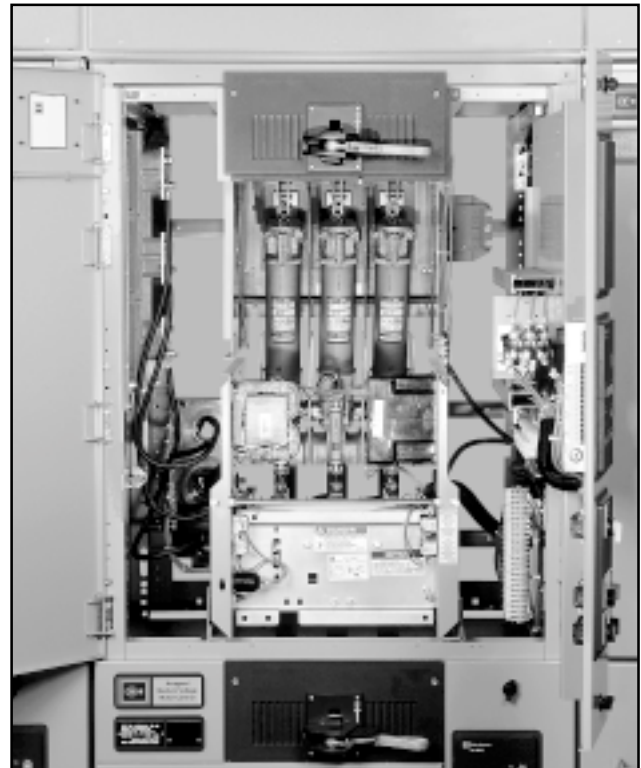
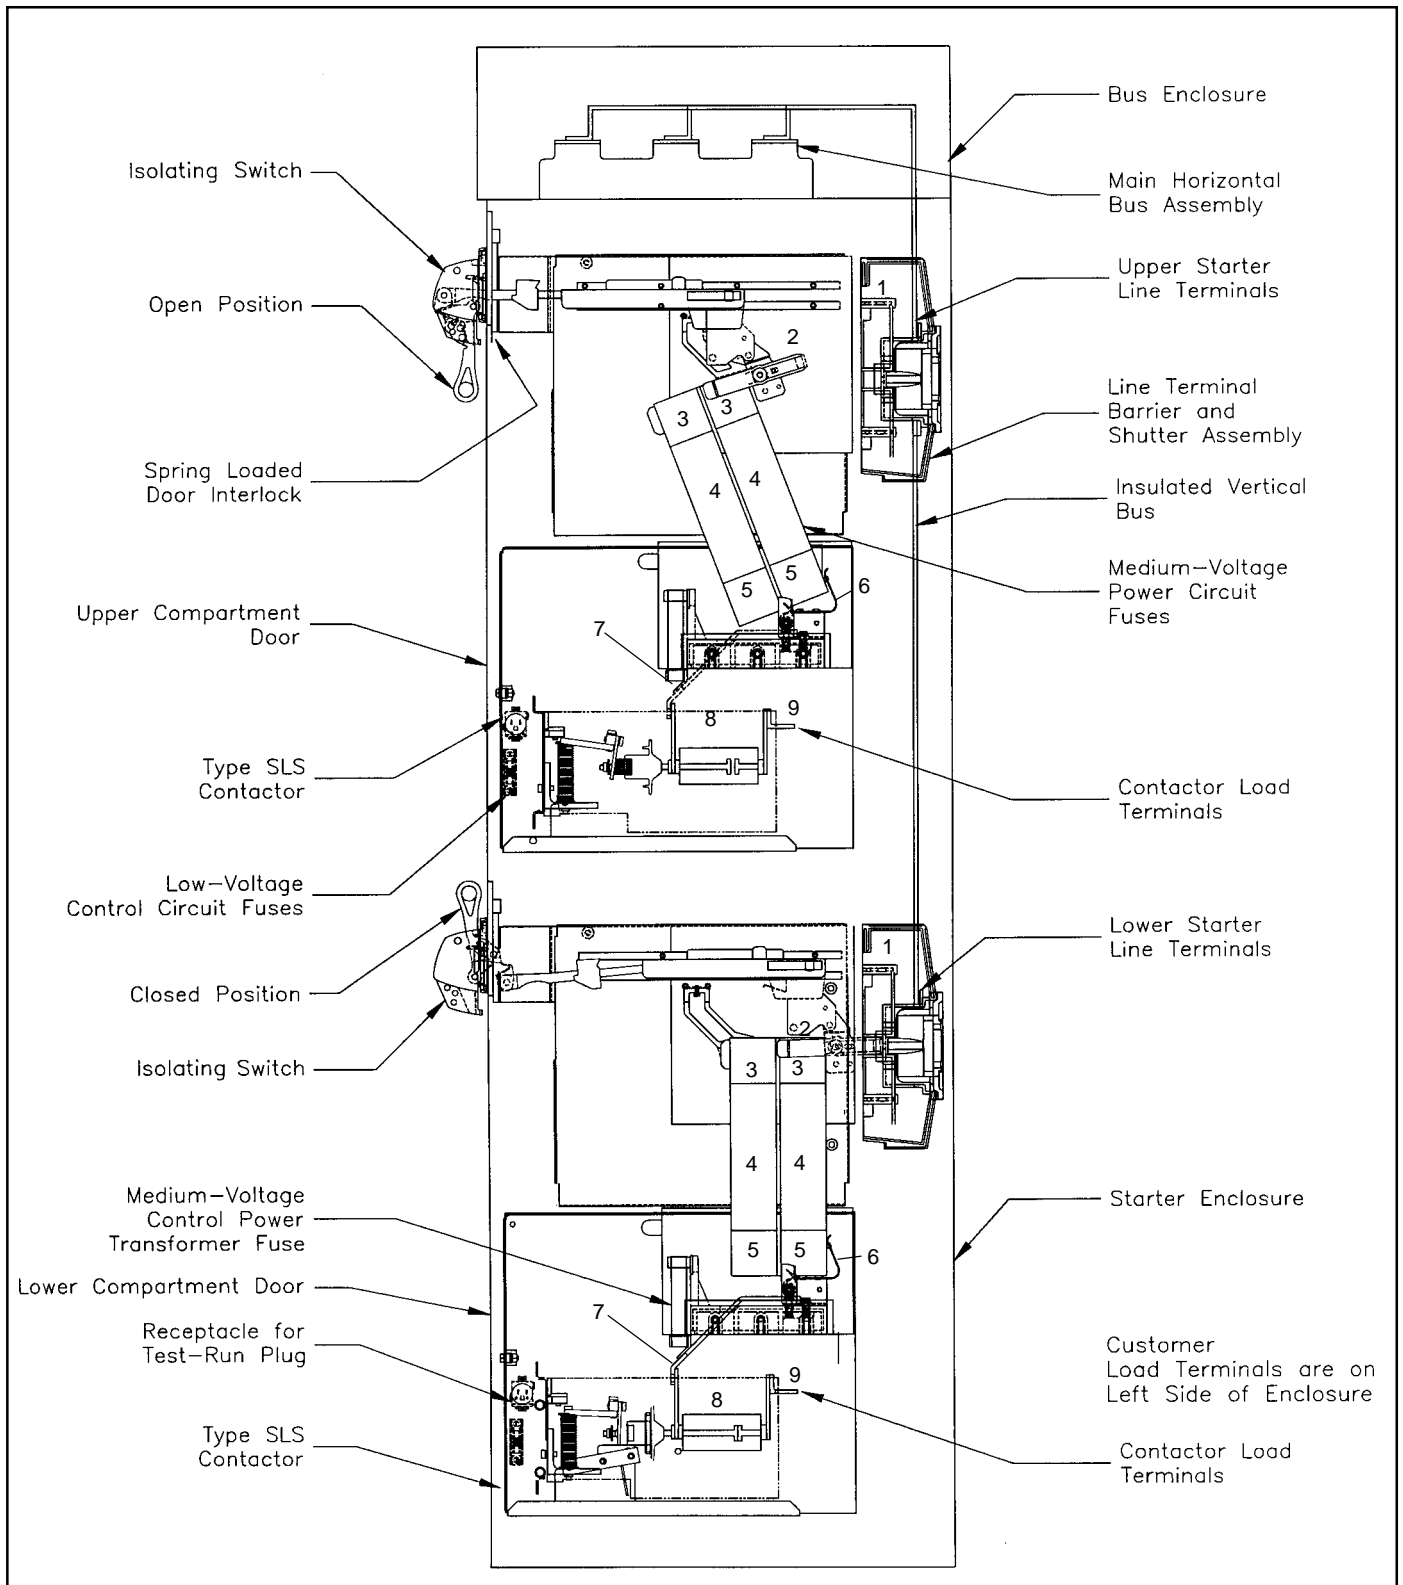

Fig. 2 SLS Contactor & Isolating Switch
Fig. 4 Ampgard® Components, Two Starters (Controllers) Shown
The flow of current through a vacuum-break controller (starter) can be traced by referring to the lower portion of Figure 4, where the controller is shown in the energized position. The line stab assembly mounted at the back of the enclosure also serves as the controller line terminals (1). The stabs themselves are engaged by the fuse jaws (2) of the isolating switch which is mounted on rails above the contactor. The ferrules (3) of the current-limiting motor-starting power circuit fuses (4) clip into the fuse jaws, and the load ferrules (5) fit into the fuse holders (6) which are part of the contactor line terminals. Current flows through the contactor from the load ferrules of the power circuit fuses, through the contactor line bus (7), and the vacuum interrupters (bottles) of the contactor (8), to the contactor load terminals (9). Cables pass through current transformers and connect the contactor load terminals to the controller load (motor) terminals mounted on the enclosure wall to the left of the isolating switch. See Figure 2.